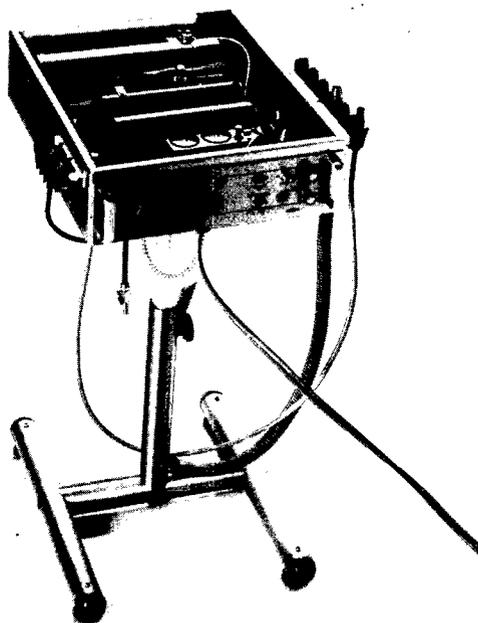

FIGURE 12
10. Move the hanger bar assemblies to the outside of the Porta-Cart and install them, as shown in Figure 12 or in the alternate holes lower on the side of the unit.
11. Uncoil the saliva ejector and AVS handpiece tubings, and feed them out through the bottom of the unit. Hang the saliva ejector tip and AVS handpiece in the hangers, as shown in Figure 12.